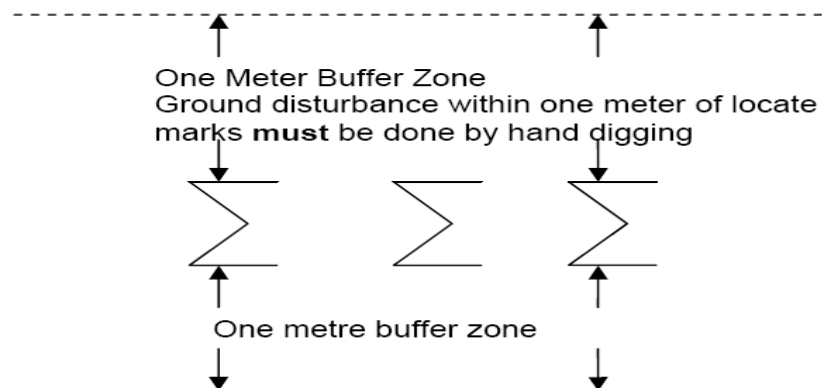

Figure 1: Hand Digging or Non Destructive (Hydrovac) Zone
- (d) **Hand Expose Zone** – distance from outside of locator chevrons that must be exposed by hand dig or non- destructive hydrovac methods (See Figure 1.)
- (e) **Non-destructive** – See hand dig definition and Figure 1.